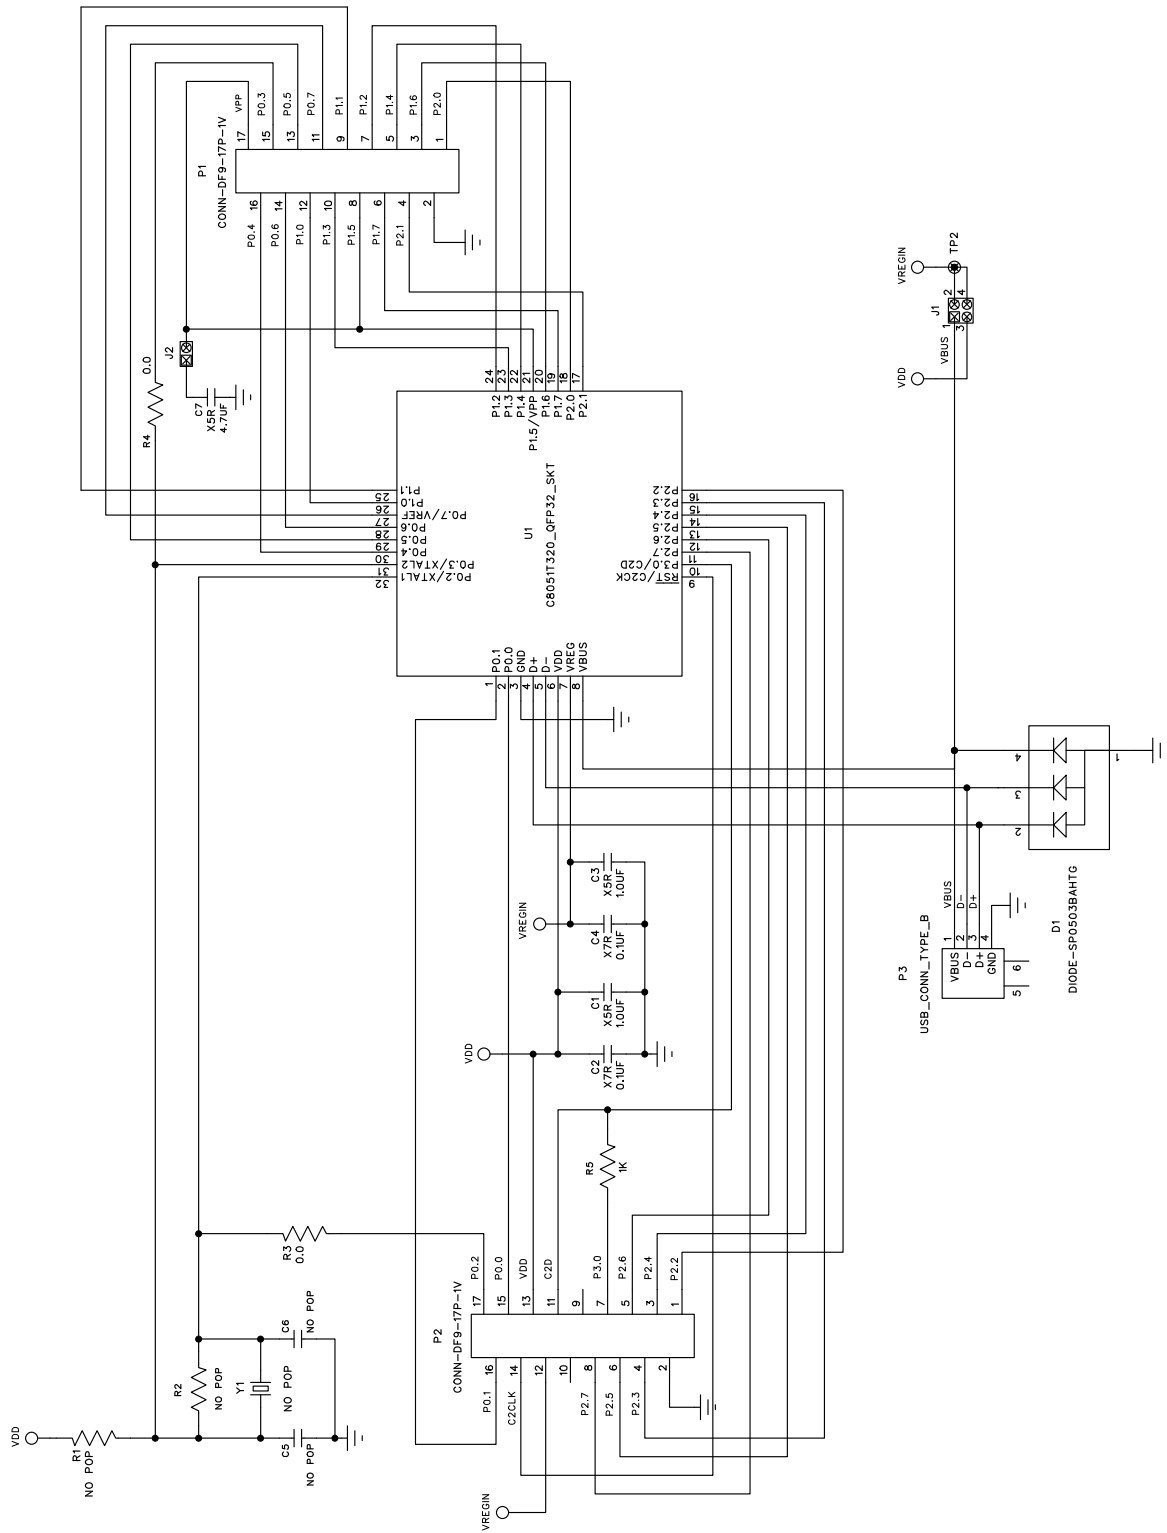

Figure 19. C8051T320 QFP-32 Daughter Board Schematic
- Added Figures 19, 20, 21, and 22.